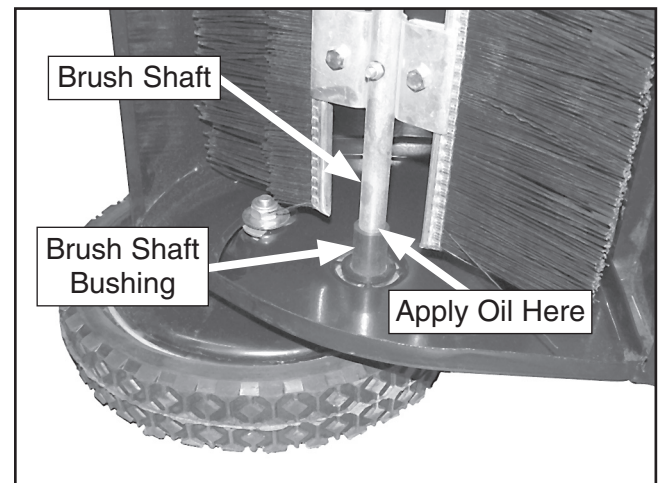

Figure 9. Brush shaft bushing lubrication.
1. Tilt the sweeper onto its side and apply a few drops of light oil to the brush shaft, as shown in **Figure 9**.